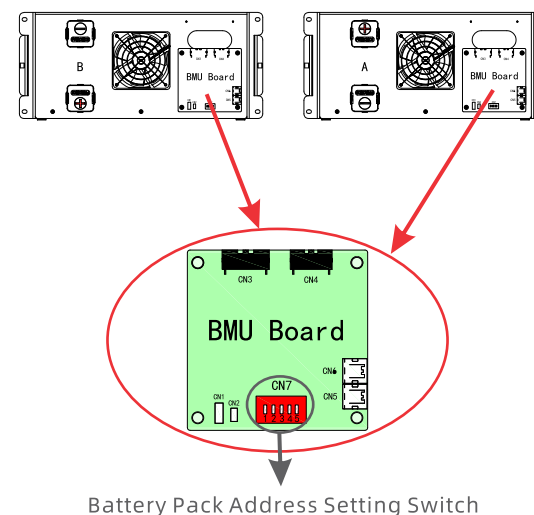

Figure-16 Diagram of battery pack and BMU board
- 3). The address of the battery box is set according to the dial switch (CN7) on the BMU board, as shown in Figure-16, the dial switch is set according to the binary address, from 1 to 5 switch represents high to low, for example: only open the first switch, close 2 to 5 switch, the set address is 16.